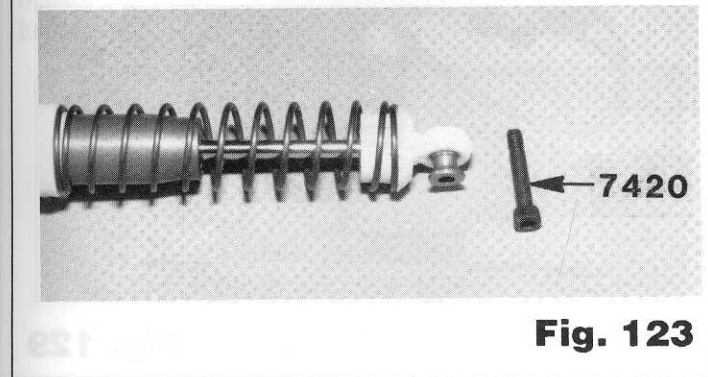

Fig. 123
□ **Figs. 123 & 124** From Bag 7-1 take one of the long #7420 4/40 x 5/8" Special SHCS screws that has threads on the end only. Slip the shaft end of the right hand front shock into the slot of the front A-arm, as shown. make sure the flat flange of the steel ball is towards the rear. Install the screw in the direction the arrow shows. Do the left hand side.